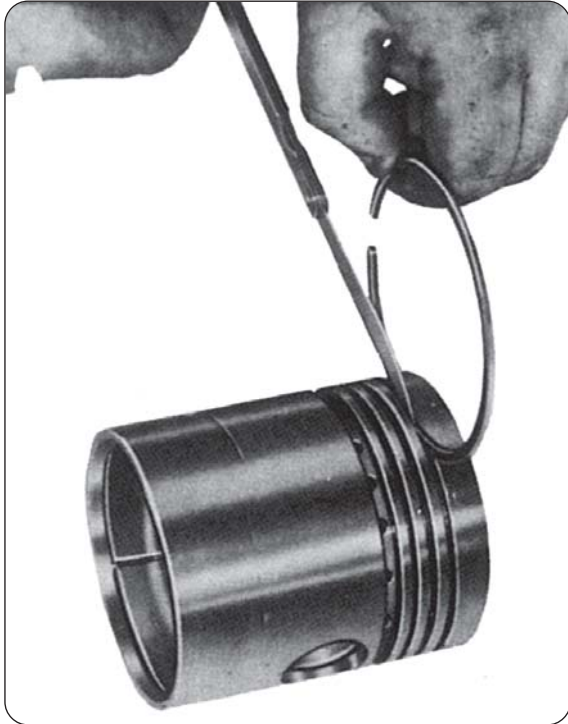

Fig. 5
- a) Check the piston ring grooves for wear, using new ring and feeler gauges (Fig. 5). See specifications for acceptable clearance.